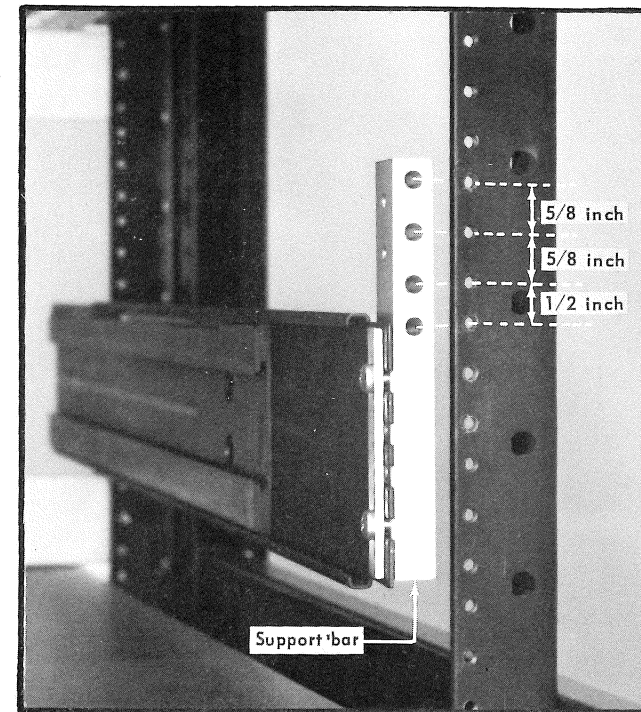

Fig. 2-15. Vertical mounting position for rear end of slide-out tracks. Left stationary section is shown.
4. With the front end of each stationary section attached to the front rail, hold the track in a level position in the rack and locate the proper rear-rail mounting holes (see Fig. 2-15).